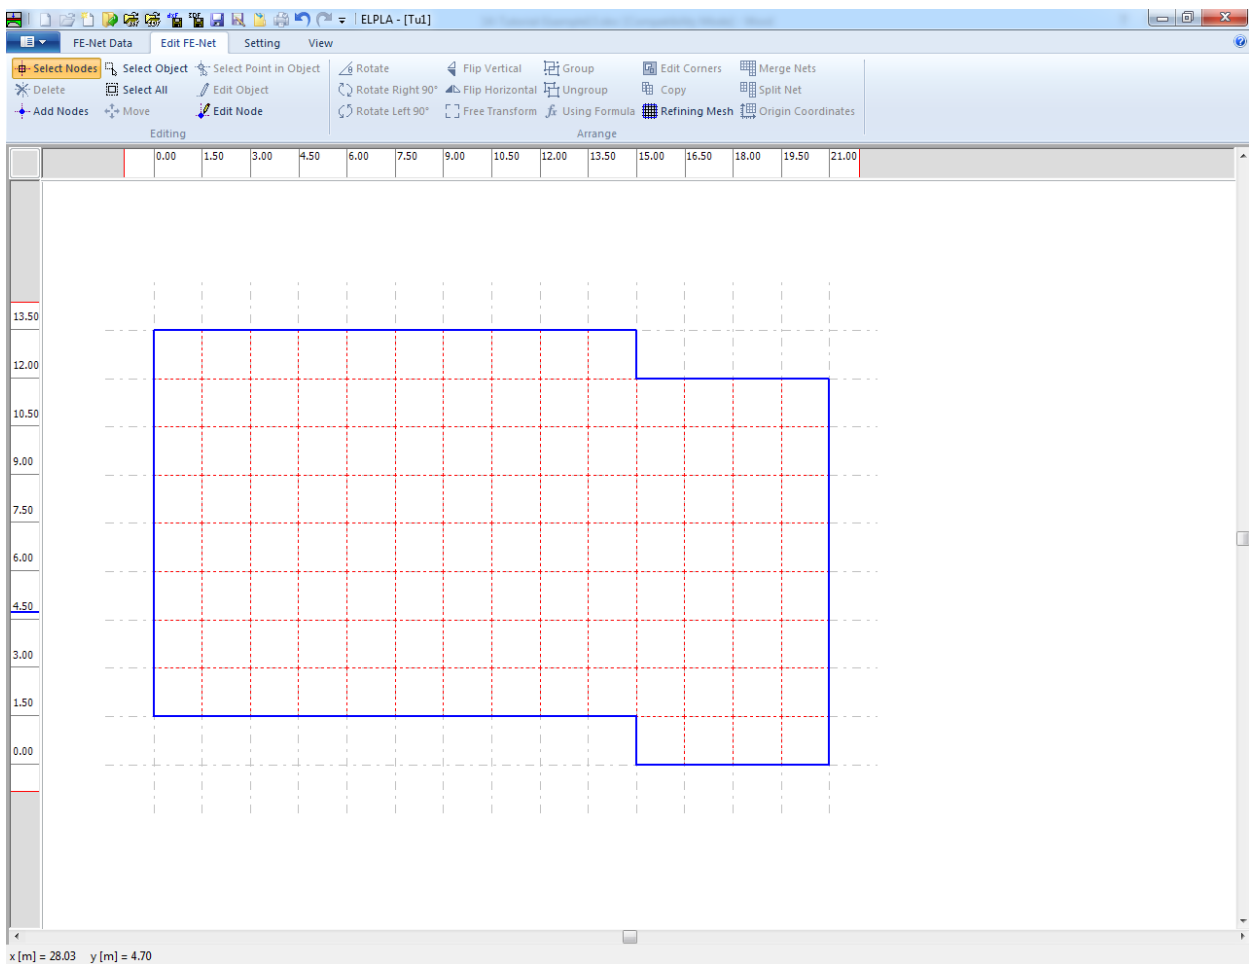

Figure 13.13 Final FE-Net after deleting the unnecessary nodes
To remove the selected nodes, choose "Delete" command from "Edit FE-Net" menu. The action of this command is indicated in Figure 13.13. To leave the graphic mode, press "Esc" key.
- Choose "Save" command from "File" menu in Figure 13.13 to save the data of the FE-Net
- Choose "Close" command from "File" menu in Figure 13.13 to close the "FE-Net" Window and to return to *ELPLA* main window